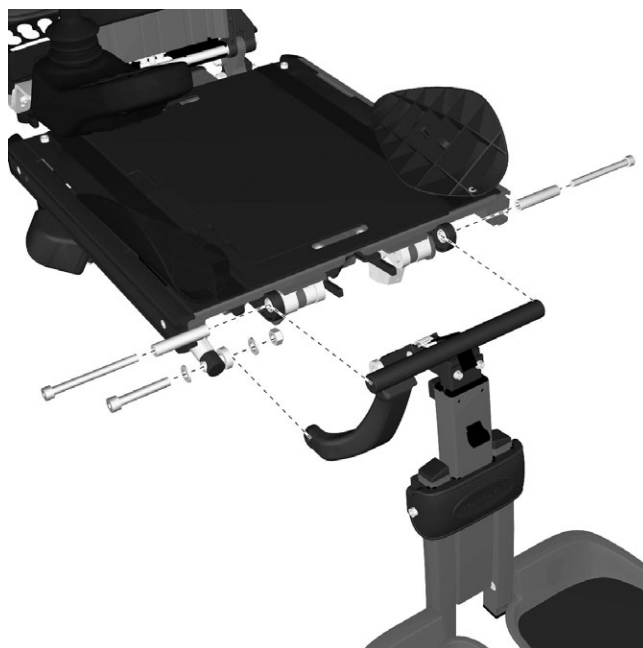

Figure 222. The legrest is held in place by two screws and spacers. The front bracket of the actuator is held in place by a screw and lock nut.
1. Assemble the legrest using the two screws and spacers. See fig. 222. Use a torque wrench to tighten the screws. **Tightening torque 24 Nm / 17.7 Ft/lbs.**
2. Assemble the front bracket of the manual adjustment unit/actuator. See fig. 222. Start with the screw and washer. Tighten the screw using a torque wrench. **Tightening torque 24 Nm / 17.7 Ft/lbs.** Then fit the lock nut and washer on the inside of the bracket. Hold the screw to counteract rotation while tightening the nut. Tighten the nut using a torque wrench. **Tightening torque: 24 Nm / 17.7 Ft/lbs**